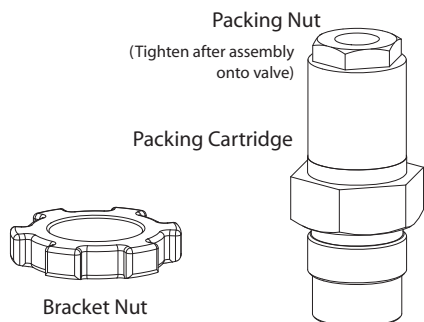

Figure-1
**Note:** Packing nut (see Figure-1) must be threaded **only one turn** into cartridge before sliding over valve stem.